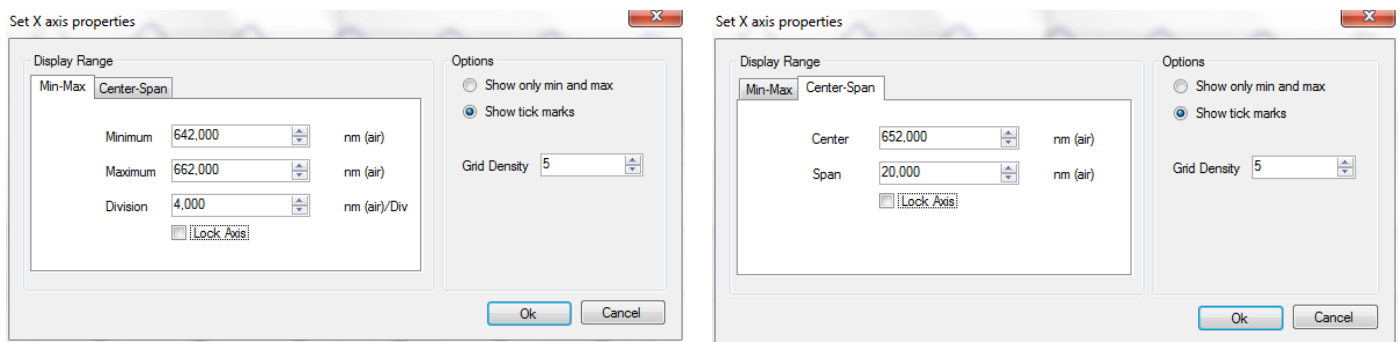

Figure 14 Axis Options Dialog Opened for the Horizontal Axis
The vertical axis can be set manually by clicking on the (primary or secondary) vertical axis itself. This will bring up a dialog box, (shown in Figure 14) in which the minimum and maximum value, division, center wavelength and span can be set.
- The range of the primary and secondary axis can be set individually by clicking on (the gray part of) the axis which brings up the Axis Options Dialog (see Figure 14) for the selected axis notice that the grid density is always the same for the primary and the secondary axis. Changing the grid density on one axis will change the grid density on the other.
- The primary and secondary axes can be locked individually to any desired range by checking the “Lock Axis” check box in the Axis Options Dialog (see Figure 14).